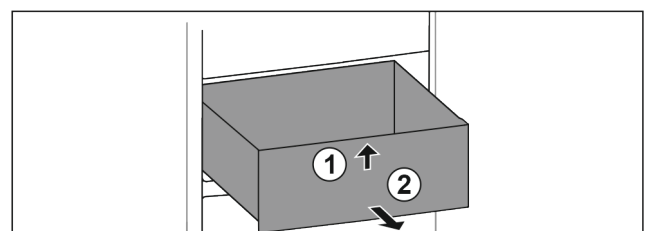

Fig. 65
- Lift up drawer at the front. *Fig. 65 (1)*
- Remove drawer to the front. *Fig. 65 (2)*